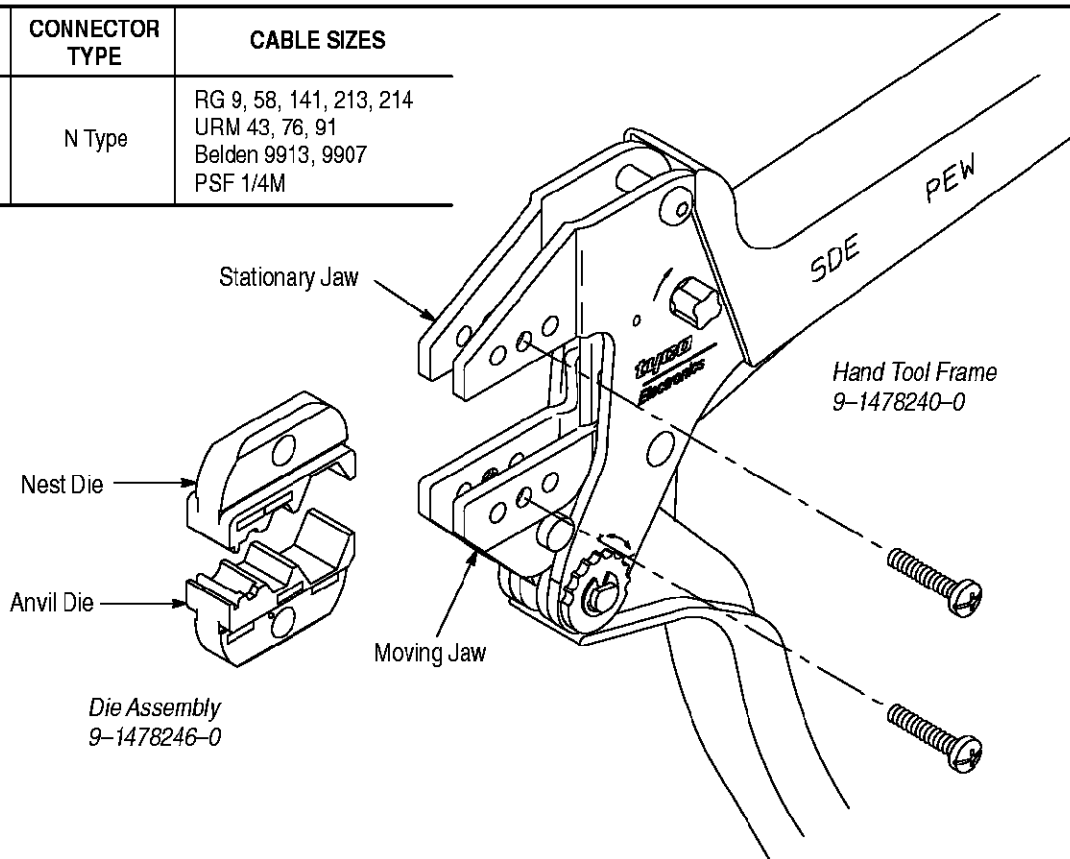

Figure 1
This instruction sheet covers the use and maintenance of GREENPAR Crimping Die 9-1478246-0 (in their various configurations – denoted by the dash number following the base part number), used in Hand Tool Frame 9-1478240-0. The die crimps plug connectors onto coaxial cable. See Figure 1 for a list of the cable sizes the die set can crimp.
2. DESCRIPTION (Figure 1)
2. See Figure 1 for normal orientation of the dies. Insert the dies inside the tool jaws and align the retaining screw holes.
- Change hand tool frame part number 1583203-1 to 9-1478240-0 in Figure 1 and Section 1, INTRODUCTION